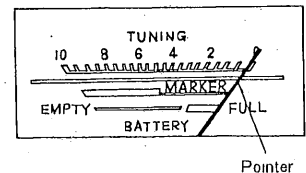

Fig. 23
- Adjust R₅₄ so that the pointer of level meter stays as shown in fig. 23.